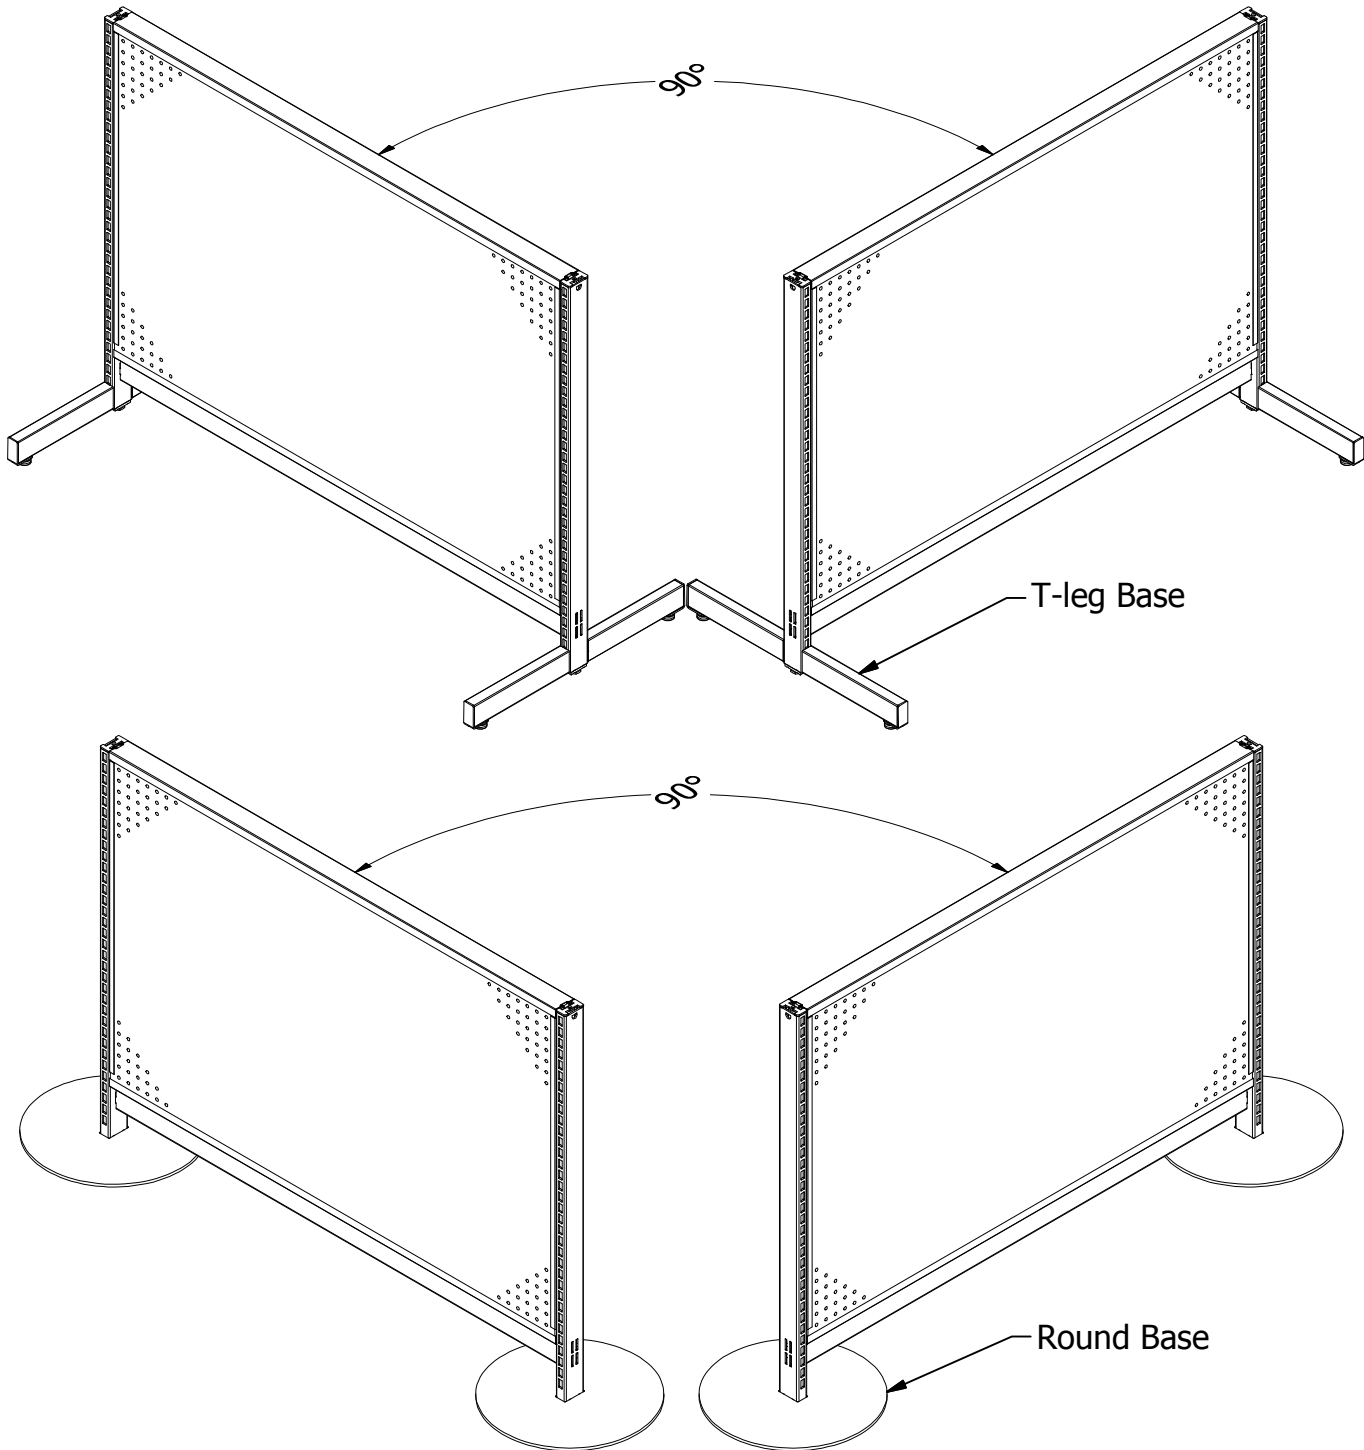

Figure 1
STEP 1: Set up Queuing System at 90° to each other. (See Figure 1)